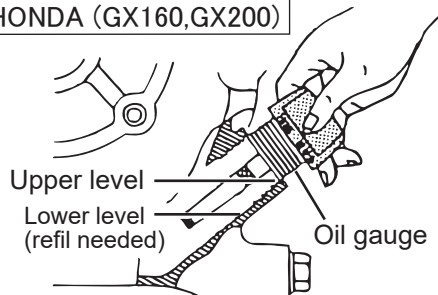

Fig. 1
- Set the engine on a level surface to check the oil level. If the oil level is low, add oil. (Fig.1)